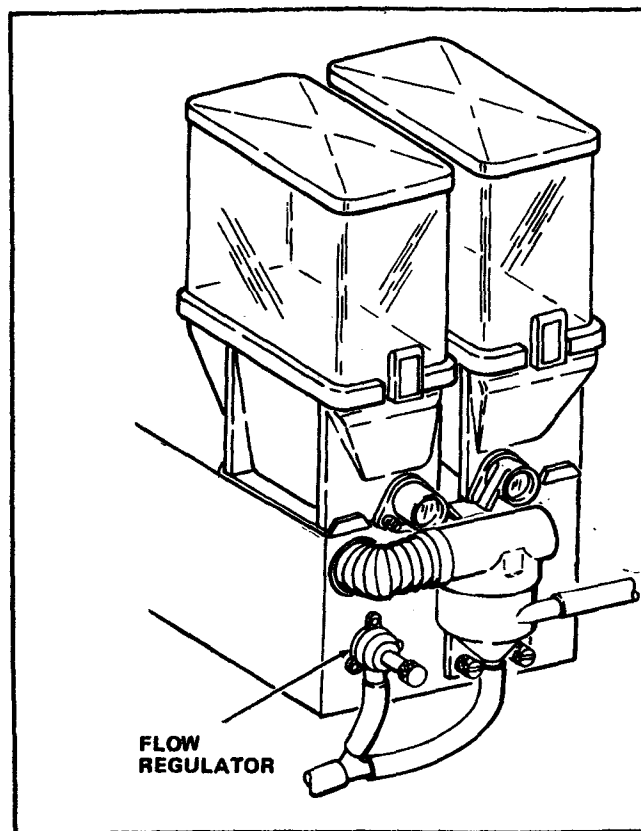

Figure 3-18. Adjustment of Flow Regulator
- A. Turn the adjusting knob on the Flow Regulator **CLOCKWISE** to increase the flow or **COUNTER-CLOCKWISE** to decrease the flow. See Figure 3-18.